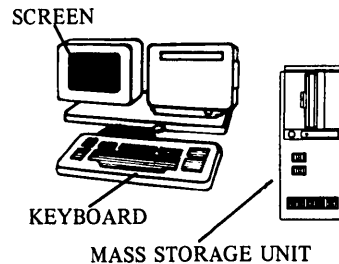

Figure C-1. Burroughs B 22 Hardware Configuration
- Figure C-1 shows the B22 hardware configuration and explains the components of the mass storage unit.